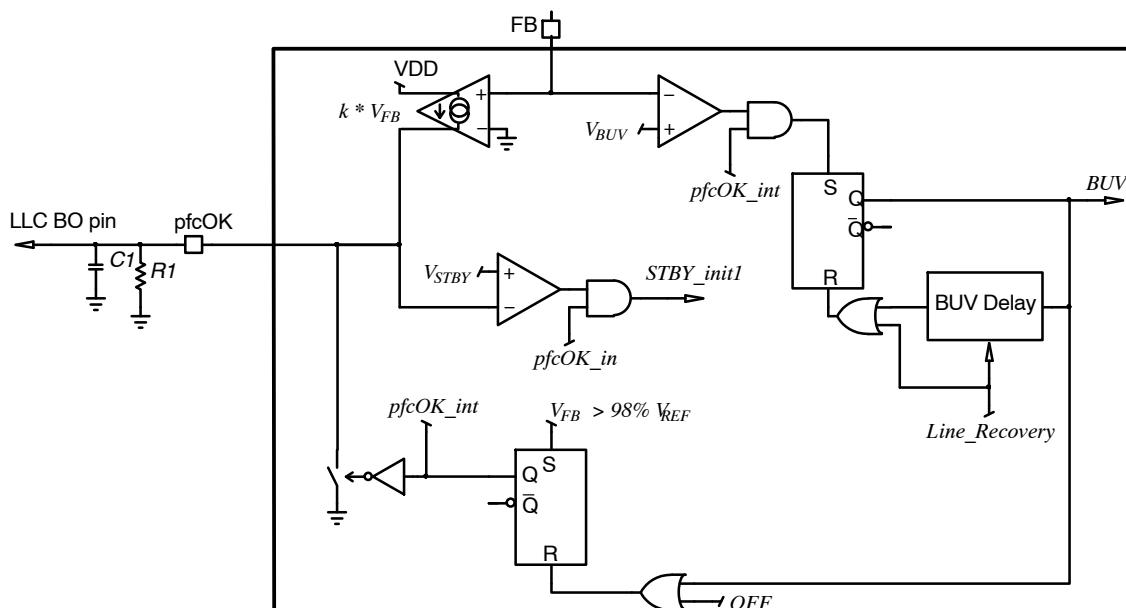

Figure 17. *pfcOK* Block
Practically, the *pfcOK* pin is grounded when the PFC stage enters operation and remains in low state until the output voltage has nearly reached its nominal level (practically when  $V_{FB}$  reaches 98%  $V_{REF}$ ). At that moment, the *pfcOK* pin sources a current proportional to the feedback voltage ( $k \cdot V_{FB}$ ). See Figure 17. Placing an external resistor between the *pfcOK* and GND pins, we obtain a voltage  $V_{pfcOK}$  which is proportional to the bulk voltage and can serve as a feedforward signal for the downstream converter.  $k$  typical value is 10  $\mu\text{A}/\text{V}$  so that the *pfcOK* pin typically sources 25  $\mu\text{A}$  when the FB voltage is 2.5 V (regulation level).
The high voltage (HV) pin is a multi-functional pin, which in addition to the startup current source, provides access to the brownout, line sag, line range detectors and X2 capacitor discharge. The brownout / line-sag detector detects too low line levels and the line range detector determines the presence of either 110 V or 220 V ac mains. Depending on the detected input voltage range, the NCP1618 internally adjusts device parameters to optimize the system performance. Line and neutral are diode “ORed” before connecting to the HV pin as shown in Figure 17. The diodes prevent the pin voltage from going below ground.
- Resets the BUV timer. It is because a long line-sag event is likely to cause a BUV detection. When a BUV fault is detected, no restart is possible until the BUV timer has elapsed. If a BUV fault is detected during a line-sag sequence, we want operation to be resumed as a soon as the line recovers (see Figure 17).